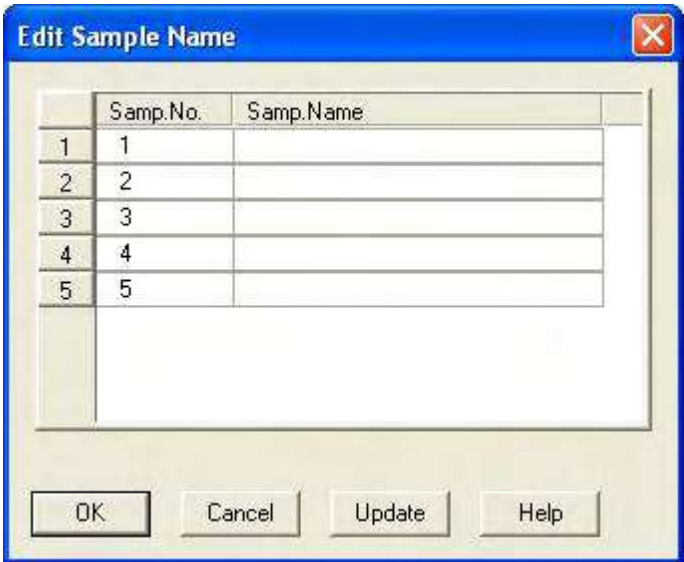

Fig. 4-33
- (b) The Edit Sample Name dialog opens as shown in Fig. 4-33.